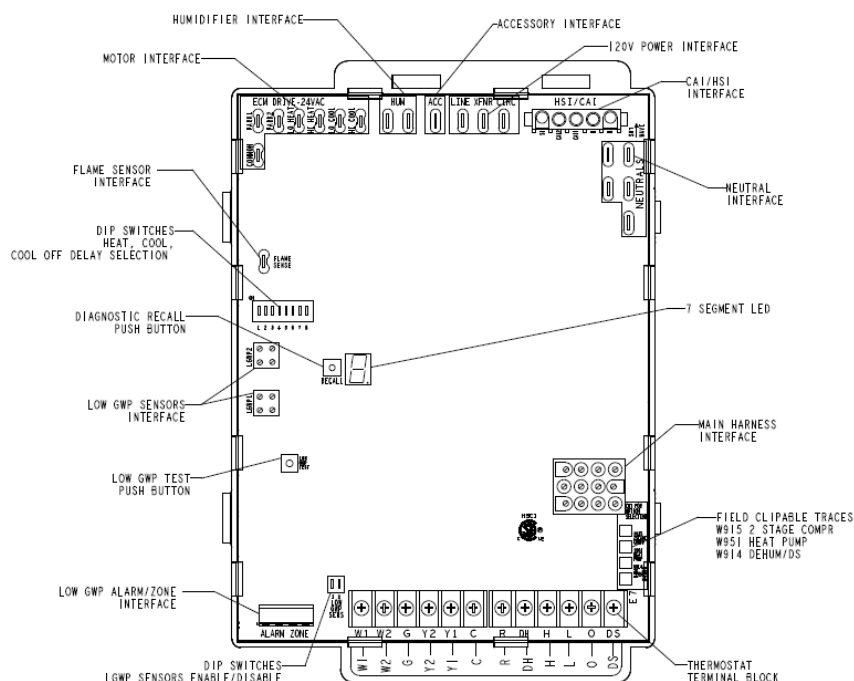

Figure 57.
7. One line voltage "ACC" 1/4" spade terminal is provided on the furnace integrated control. See Figure 57 for integrated control configuration. This terminal is energized when the indoor blower is operating. Any accessory rated up to one amp can be connected to this terminal with the neutral leg of the circuit being connected to one of the provided neutral terminals. If an accessory rated at greater than one amp is connected to this terminal, it is necessary to use an external relay.